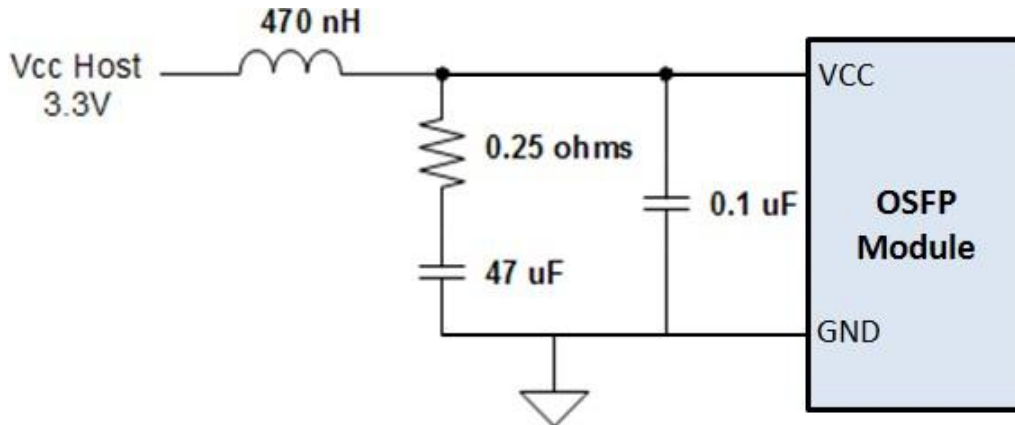

Figure 4. Recommended Power Supply Filter
6. Receiver sensitivity (OMAouter), each lane (max) is informative and is defined for a transmitter with a value of SECQ up to 3.4 dB. It should meet Equation (1), which is illustrated in Figure 4.